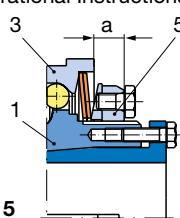

Fig. 5
EAS®-Compact® ratchetting and synchronous clutch (Sizes 01-3): Dimension "a" is the distance between the adjusting nut facing-side (5) to the thrust washer facing-side (3) (Fig. 5).